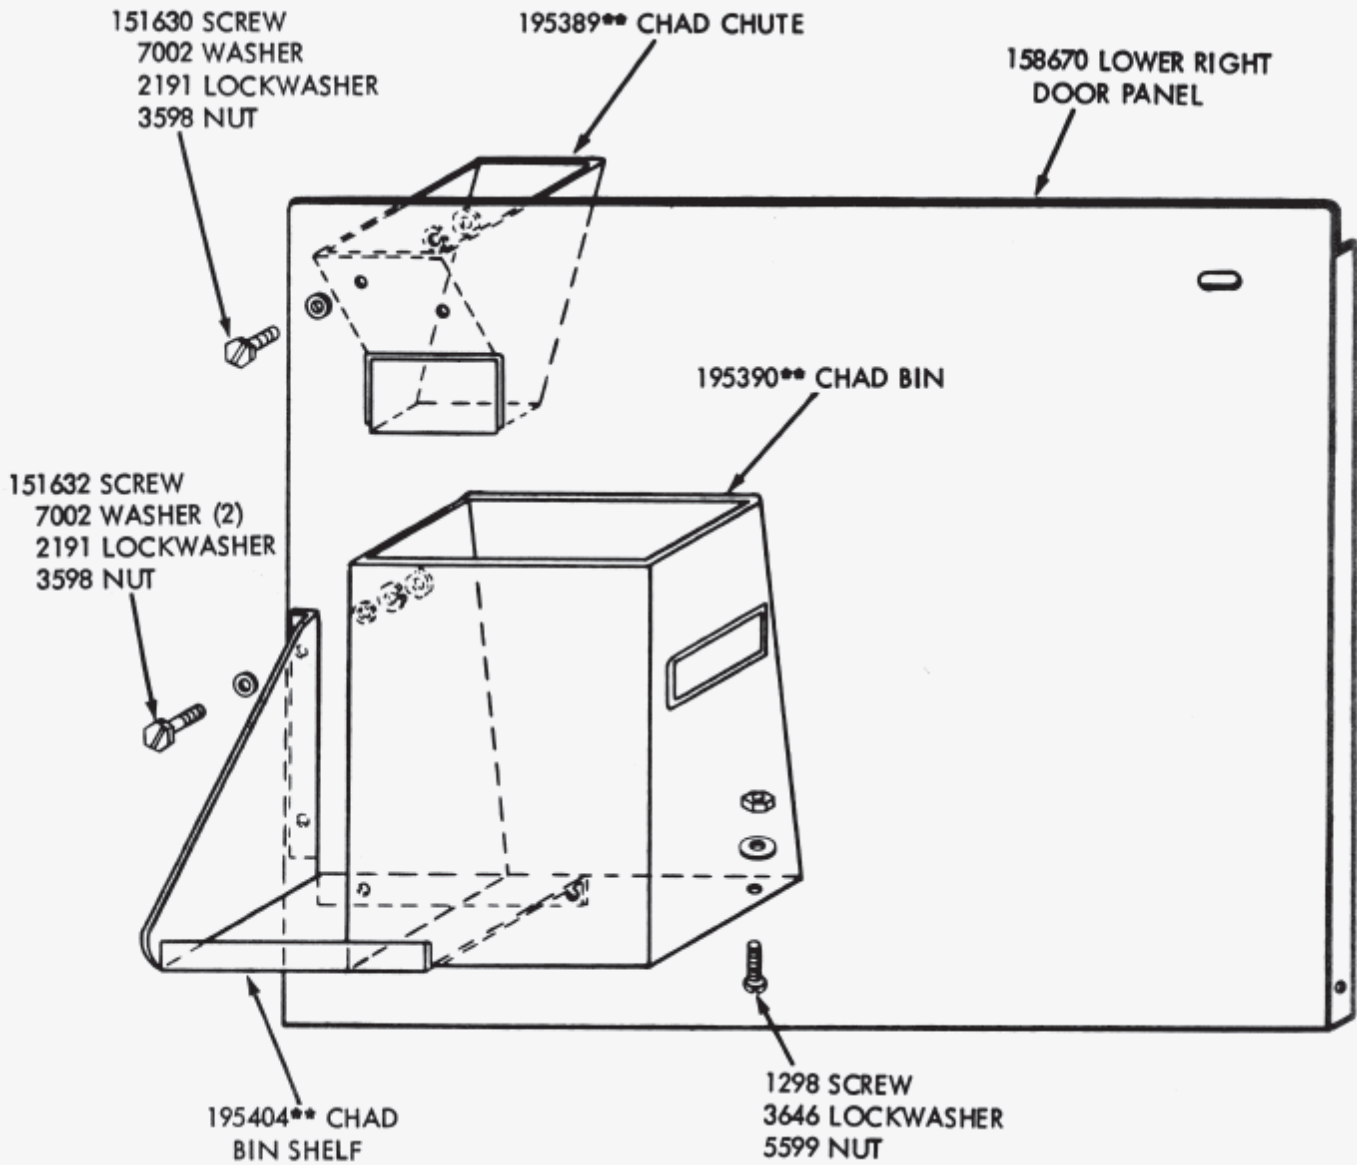

FIGURE 7. 195391** MODIFICATION KIT MOUNTING ARRANGEMENT
- 2.12 Mount the 195404** chad bin shelf to the front of the 158670 panel door by means of the four 151632 screws, 2191 lockwashers, 3598 nuts, and eight 7002 flat washers as illustrated in Figure 7. Align the shelf so that it is flush or slightly underflush with the left edge of the 158670 door panel.
- 2.13 Mount the 195389** chad chute to the rear of the 158670 door panel by means of the two 151630 screws, 7002 flat washers, 2191 lockwashers, and 3598 nuts as illustrated in Figure 7.